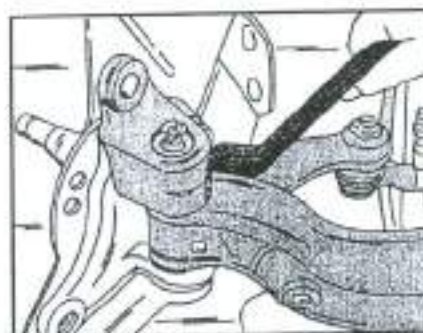

Fig. 4.5 - Removal of the holder from the steering knuckle.
- Remove the holder from the steering knuckle (Fig. 4.5).
- Refit the cap, secure it with the locking ring and refit the grease nipple. Fit the holder to the steering knuckle (Fig. 4.5).